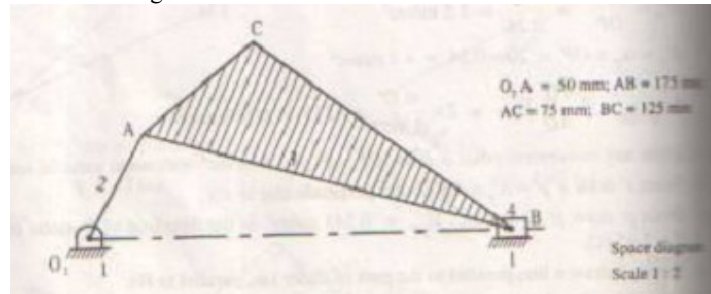

Fig. 2.1
1. In mechanism shown in fig.2.1, crank 2 rotates at 3000rpm. Find the acceleration of the point C in magnitude, direction and sense. Find also the angular acceleration of link 3.